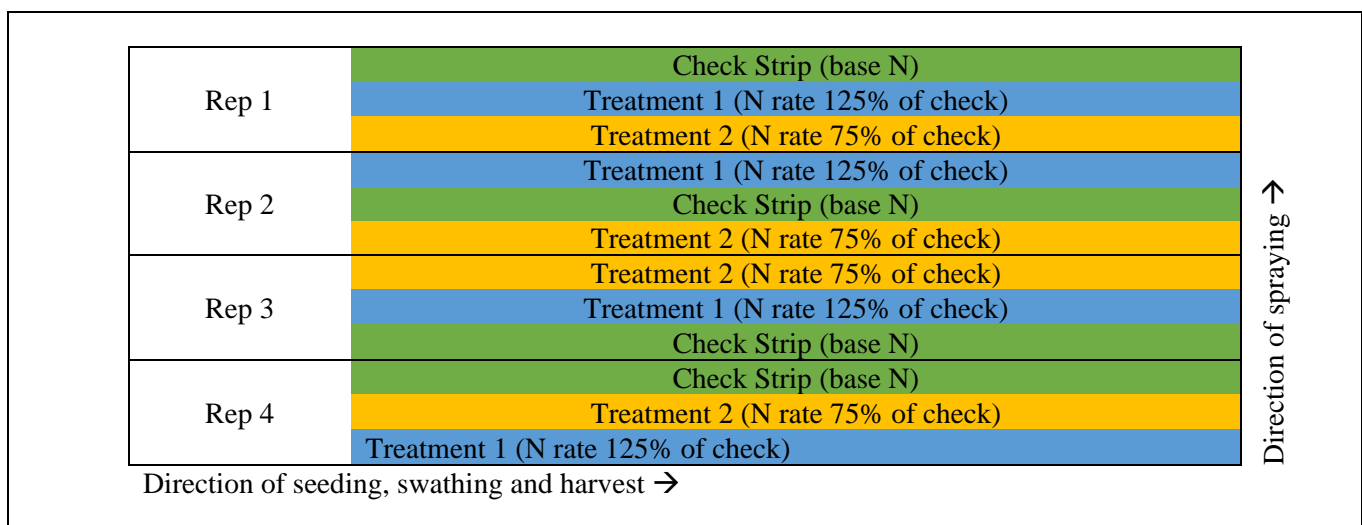

Figure 1. Plot plan example for an on-farm experiment with three treatments and four replications.
- Replicate check and treatments at least 4 times (Figure 1).
- Randomize check and treatments (Figure 1).
- In-season crop protection products must be applied perpendicular to seeding direction (Figure 1).
- Spray perpendicular to the direction of seeding to ensure the same amount of wheel tracks are consistent throughout the trial (Figure 1).
- Spray perpendicular to the direction of seeding to ensure the same amount of wheel tracks are consistent throughout the trial (Figure 1)